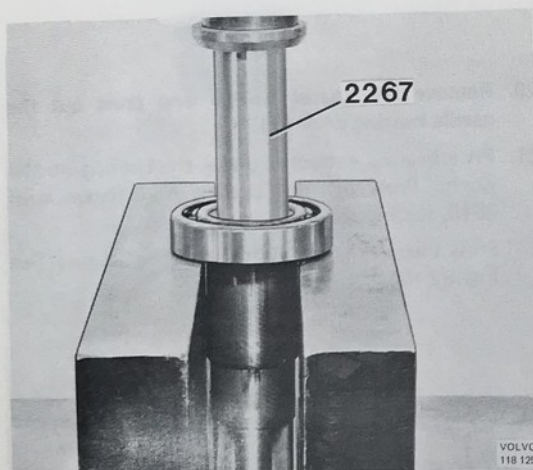

Fig. 92-61. Pressing off the bearing
24. Press the bearing off the shaft with 2267, see Fig. 92-61.